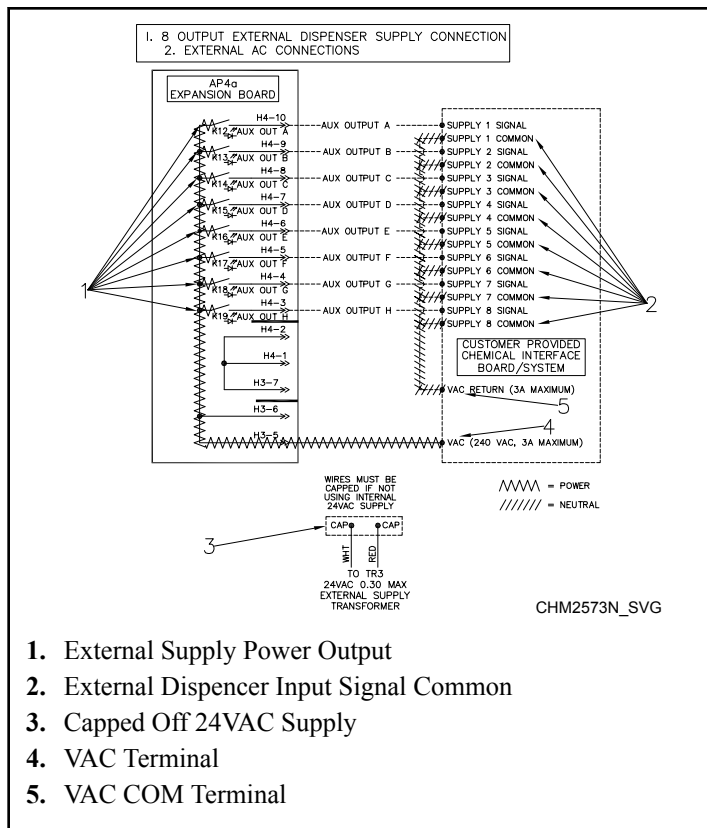
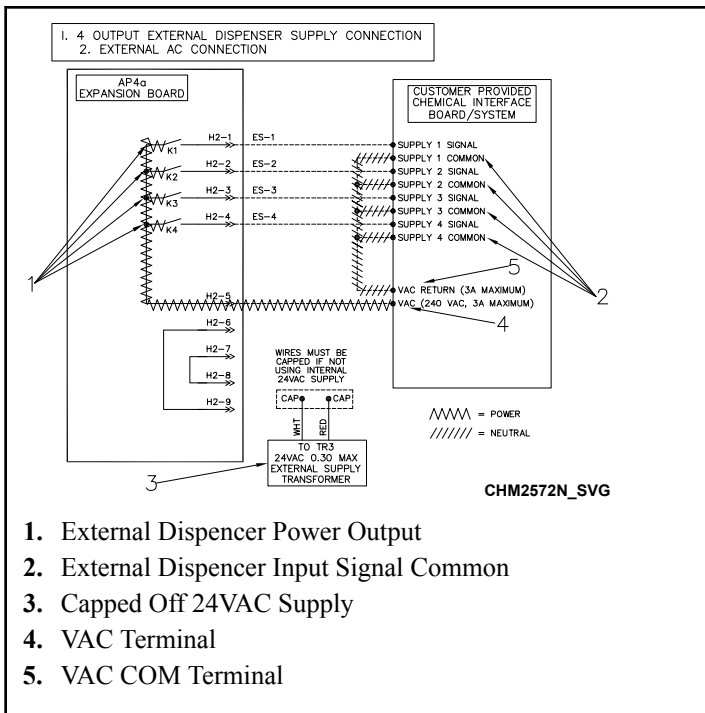

Figure 42
Figure 43
2. Connect one side of the external power to the “RELAY COM” and the other to the external dispenser input signals common. Refer to *Figure 42* and *Figure 43*.